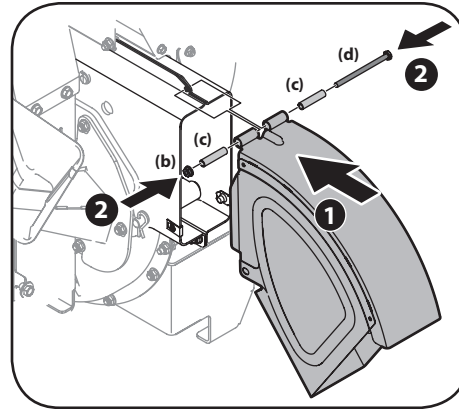

Figure 3-2
3. Align the chute deflector in position on the discharge opening and insert hex bolt (d) with spacer (c) through hinge on chute deflector (spacers fit inside of hinges). See Figure 3-2.
4. Place second spacer (c) over hex bolt (d) inside other hinge and secure with hex lock nut (b). See Figure 3-2.